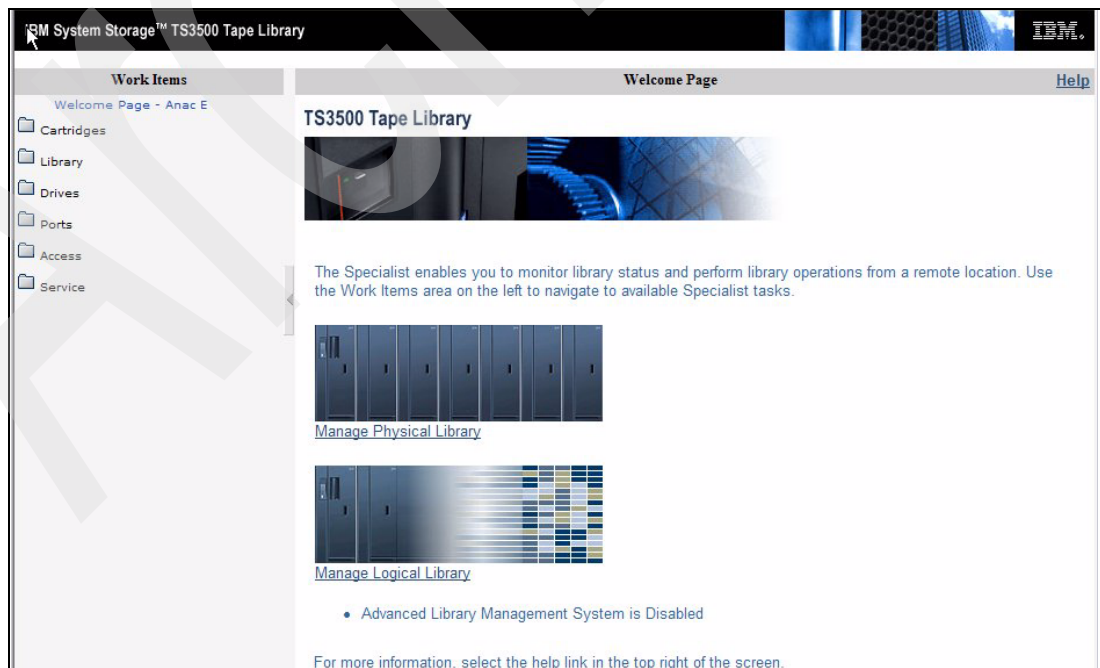

Figure 2-23 IBM TS3500 Tape Library Specialist: Welcome page
After configuring the network connection for the IBM Tape Library Specialist, enter the TCP/IP address of the library in your browser. The welcome page of the IBM TS3500 Tape Library Specialist Web interface displays, as shown in Figure 2-23. With the Specialist, you can monitor library status and perform library operations from a remote location. Use the Work Items area on the left to navigate to available Specialist tasks. For more information, click the **Help** button in the top right of the screen.
1. Enter the library's IP address as a Web site in your browser window; the introduction window displays (see Figure 2-23 on page 57). If login security is enabled, there will be a login prompt first.